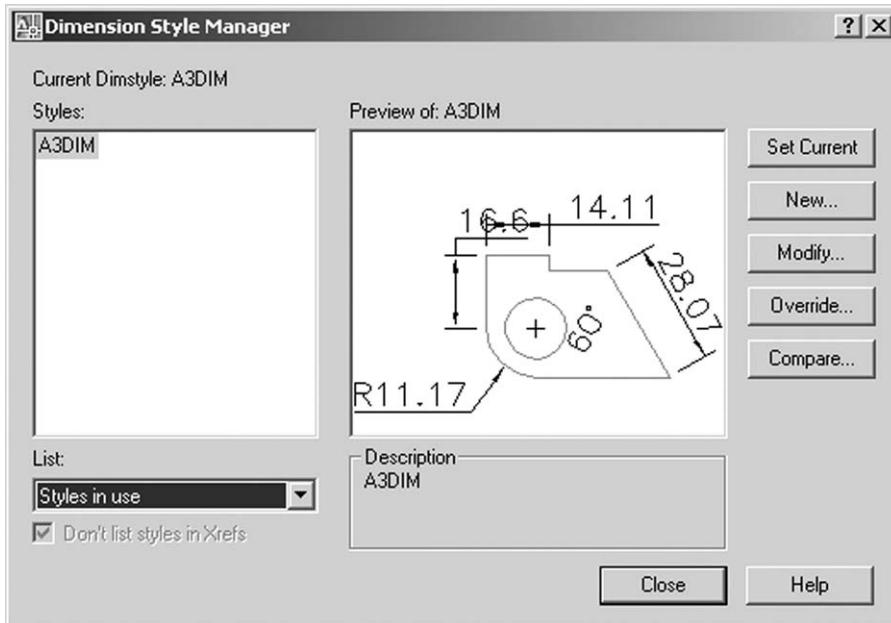

Figure 14.9 The Dimension Style Manager dialogue box for the created A3DIM dimension style.
d) dialogue box similar to Figure 14.9